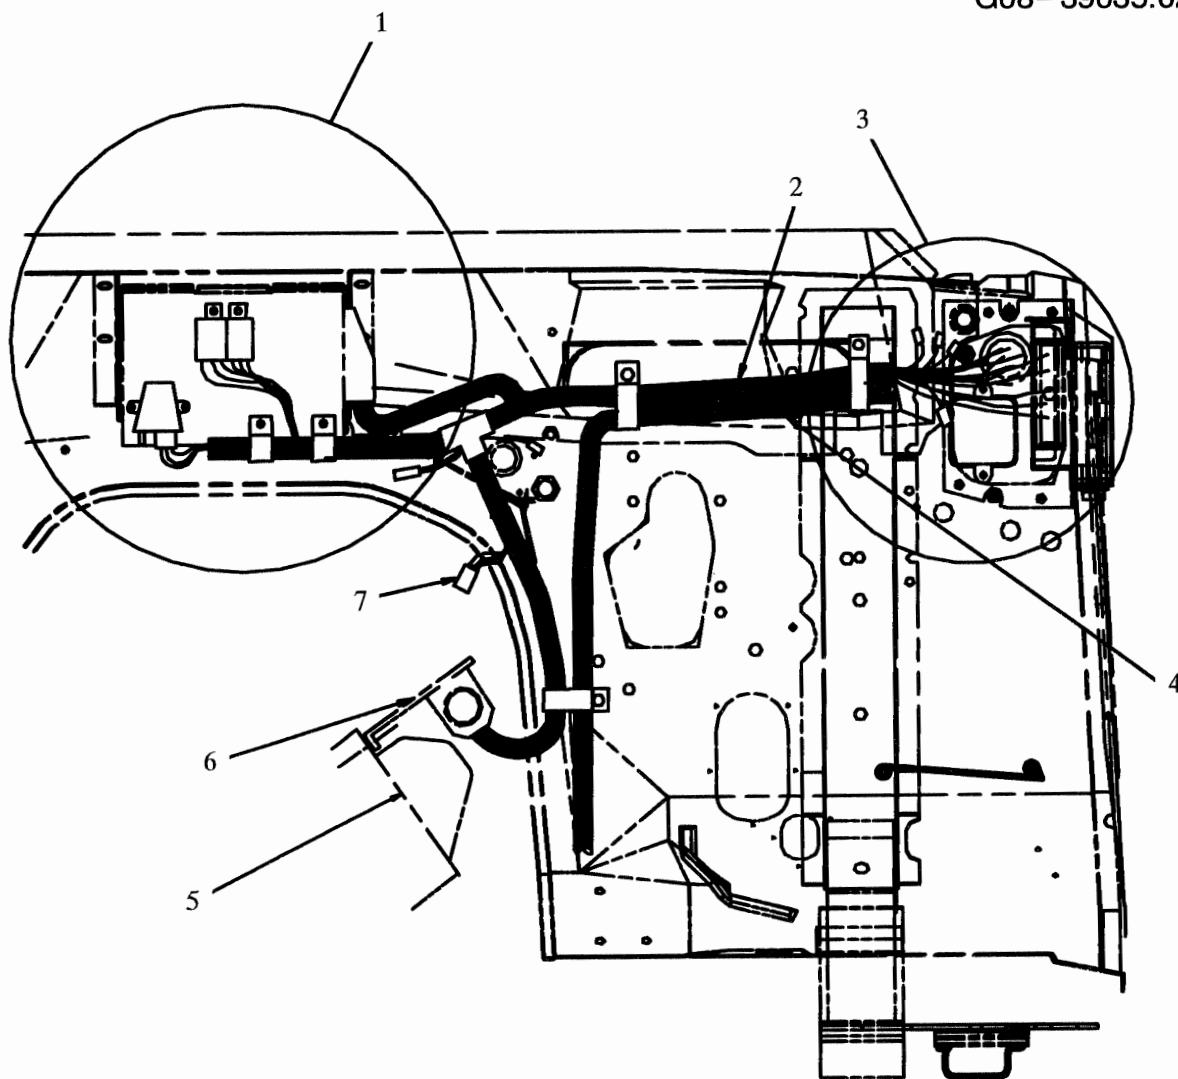

**Figure 7.19 – Dash Harness Wiring Truck And FBC (Left Side)**
1. SEE FIGURE 7.19 FOR IDM ASSY CONNECTIONS